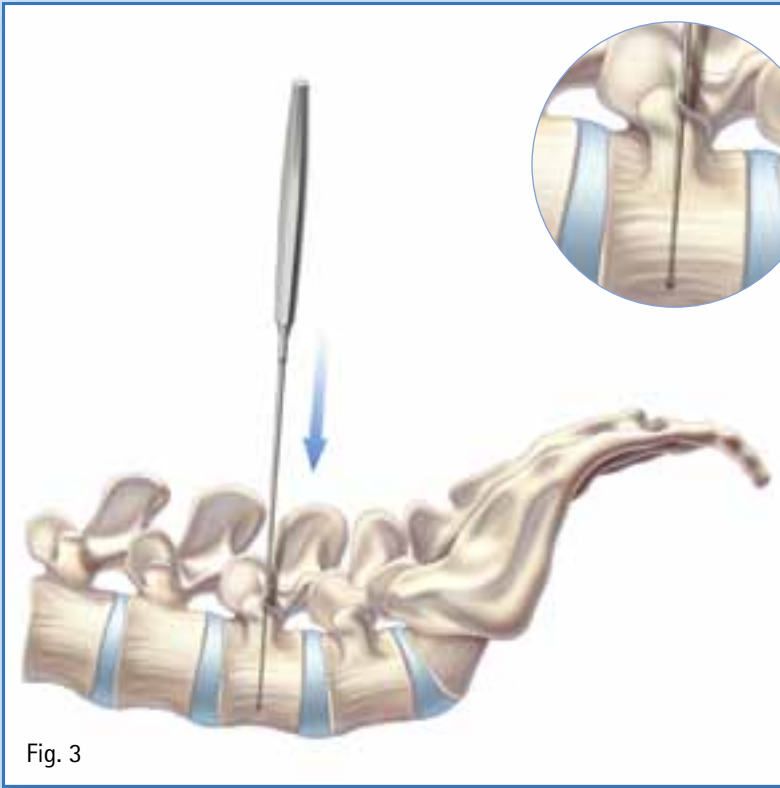

Fig. 3
- Utilize the straight or curved pedicle sounder (FW146R or FW147R) to confirm the patency of the pedicle and vertebral body cortex. (Fig. 3)